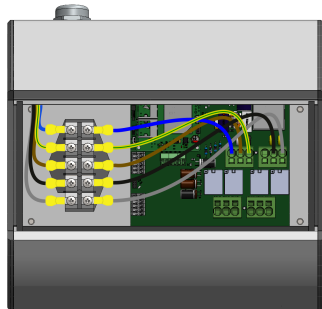

Fig. 20: Electrical connection executed correctly.
1. Connect the device to the dedicated socket on the PilotBox board. [Fig. 20]